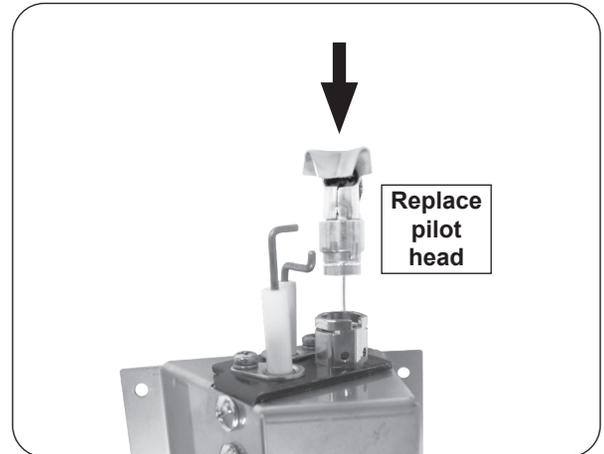

Fig. 3-2 Replace pilot head
5. Replace the pilot head (see Fig. 3-2).